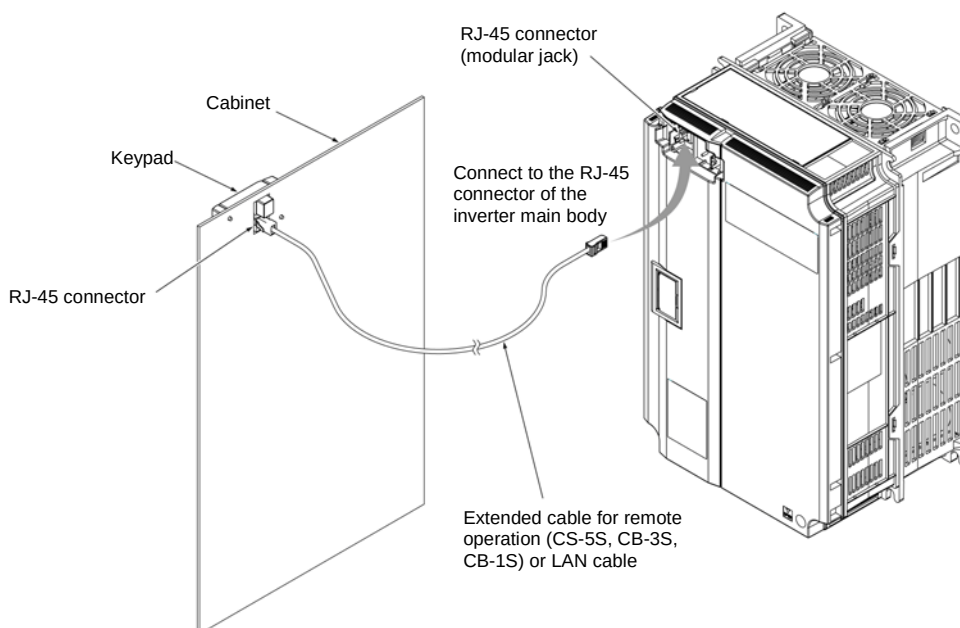

Figure 2.3-8 Connection of the Extension Cable or the Commercially Available LAN Cable between the Keypad and the Inverter Main Body
- (5) Connect the extended cable for remote operation (CB-5S, CB-3S, CB-1S) or the commercially available LAN cable (straight) to the keypad RJ-45 connector and the inverter main body RJ-45 connector (modular jack). Refer to Figure 2.3-8.